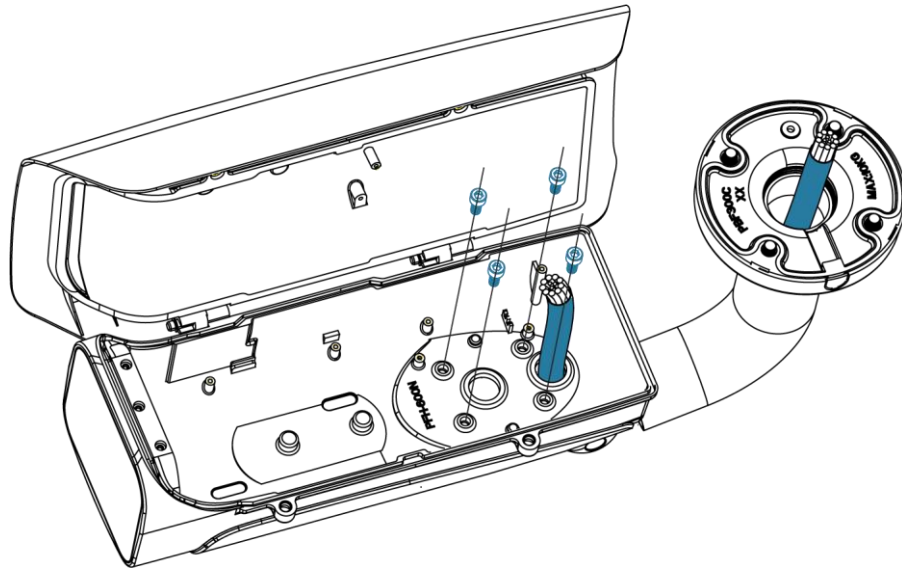

Figure 3-3
Step 2: Secure the bracket on the housing. See Figure 3-3.